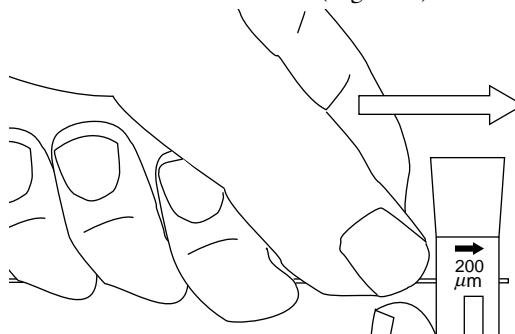

Figure 8
- Place your right thumb along the left side of the tool. Push the No-Nik tool along the fiber axis in a smooth, straight stroke to slide the severed piece of buffer off of the fiber (Figure 8).